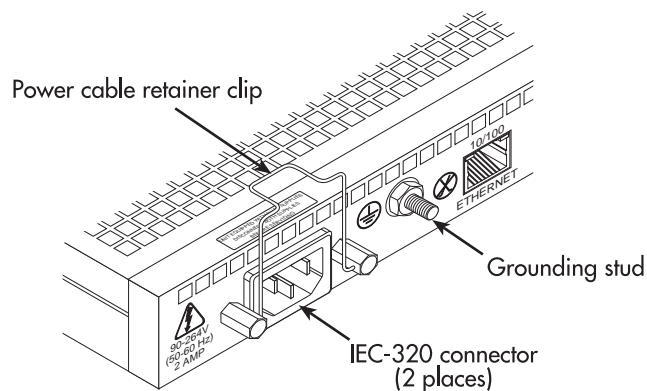

Figure 6. IEC-320 connector and grounding stud locations
- Install a power cable into an IEC-320 connector (see figure 6).